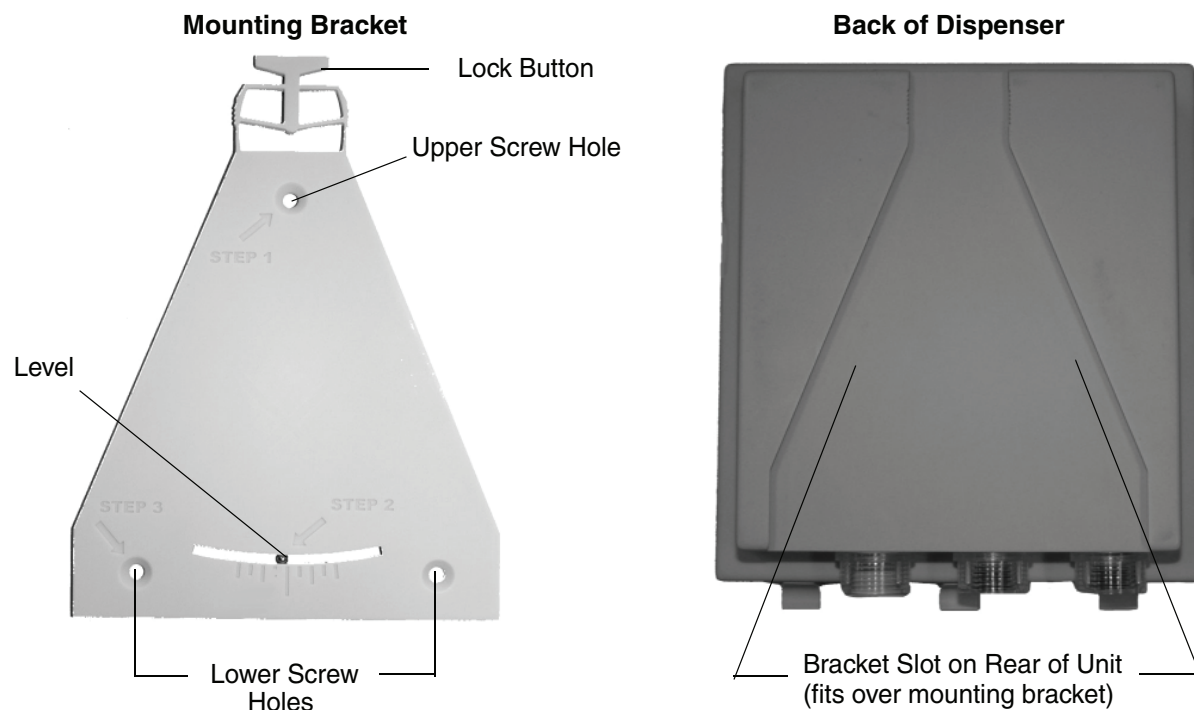

Figure 2-1 Mounting Bracket and Mounting Slot on Unit
1. Using mounting bracket as a template, mark hole for upper mounting bracket screw wall anchor. See *Figure 2-1 “Mounting Bracket and Mounting Slot on Unit”* for more information.